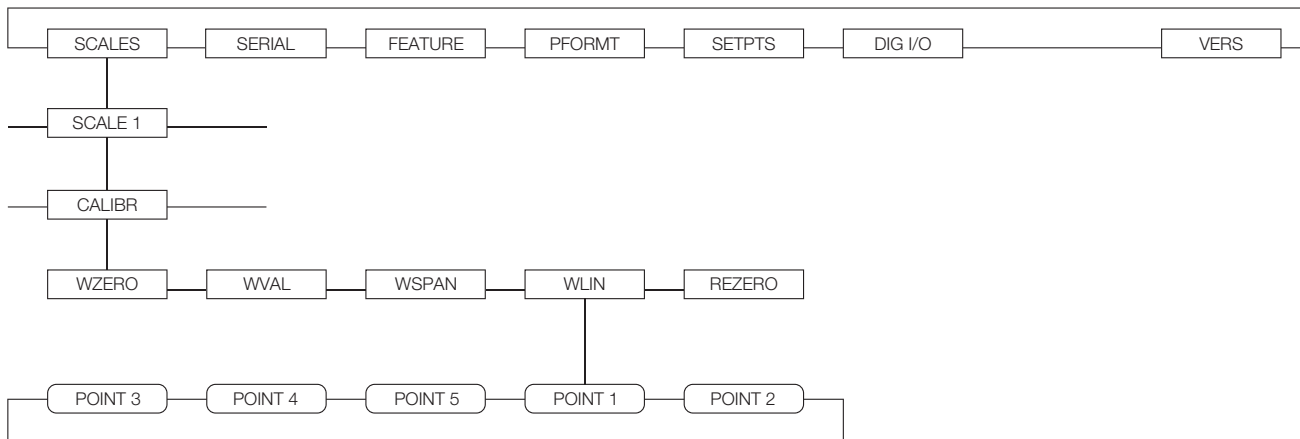
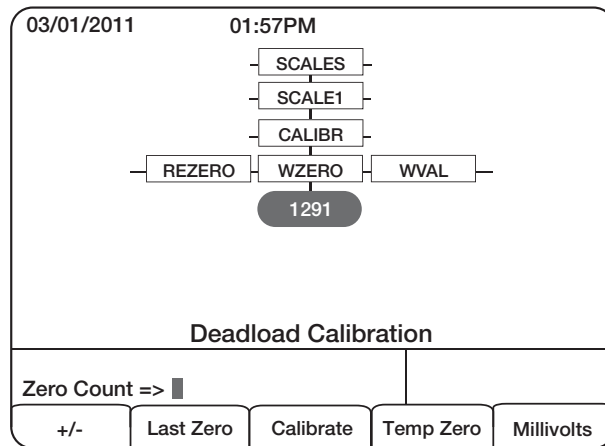

Figure 5-5. Calibration (CALIBR) Submenu
Figure 5-6. WZERO Calibration Display
The CALIBR submenu (under the SCALES menu, see Figure 5-6) is used to calibrate the 920i. The zero, span, and linear calibration point displays provide a set of softkeys used specifically for calibration procedures:
3. With the **SCALES** menu highlighted, press the down key, then select the Scale 1. Press down again (**GRADS** parameter highlighted), then press left to highlight the **CALIBR** sub-menu (see Figure 5-5). Press down to go to zero calibration (**WZERO**). See Figure 5-6.